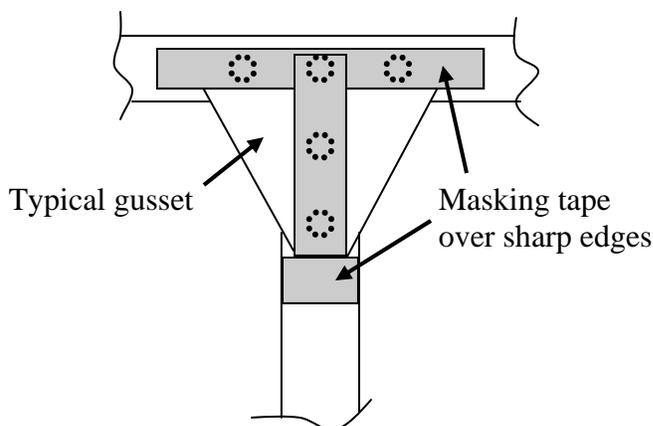

Fig 2.
- A) Select the rudder frame from kit. If any sharp edges or burrs exist on pre-drilled holes and tube ends, remove them using a suitable metal file. Use a medium grit sandpaper (220) to lightly sand the entire frame. Wipe down the frame using a clean cloth and MEK (also Acetone works well). Remove all sanding and filing residue. This will ensure a good bond for the adhesive.
- B) Apply masking tape to all sharp edges of gussets to prevent fabric envelope from being snagged or torn when slipped on. Do not cover any more aluminum than is necessary since the adhesive will not adhere to masking tape as well as to aluminum. (See Fig 2. below).